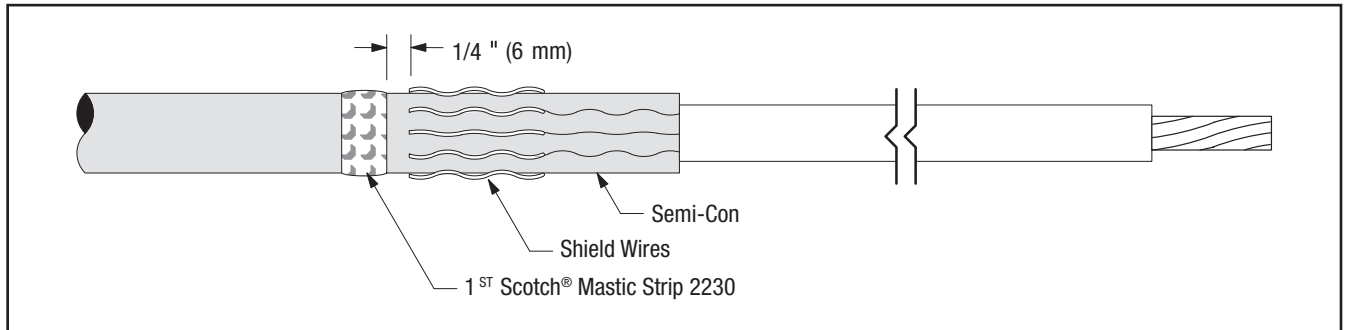

Figure 19
- 13.1 Select a Scotch® Mastic Strip 2230 from kit and remove white release liners. Using light tension, apply a SINGLE WRAP of mastic around the cable semi-conductive jacket 1/4" (6 mm) from shield wires (*Figure 19*). Cut off excess.